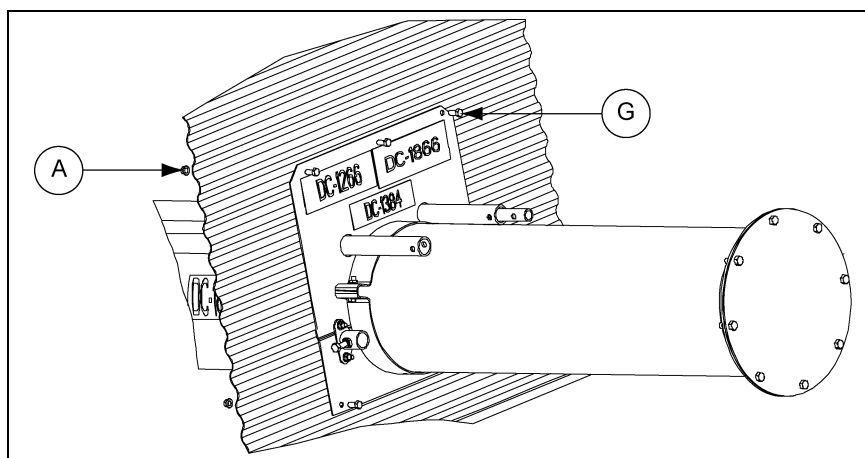

Figure 4R
4. Slide the bin flanges flush up to the bin wall and tighten the two (2) bolts connecting the two (2) flanges.
5. Drill into the bin wall through the holes located in the four (4) corners of the bin flanges. Fasten the bin flanges to the bin wall using four (4) 5/16" x 3/4" bin bolts (G) and serrated flange nuts (A).
6. Drill the remaining hole into the bin wall and attach the remaining 5/16" x 3/4" bin bolt (G) and serrated flange nut (A). *(See Figure 4R.)*